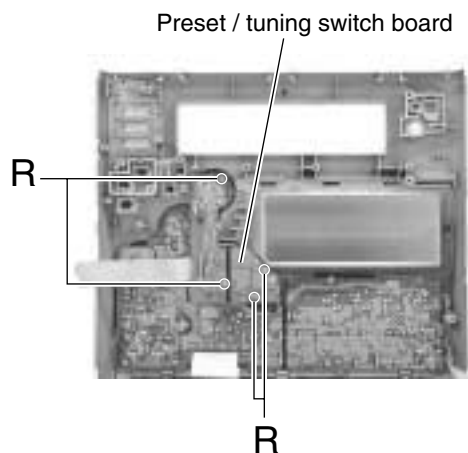

Fig.32
■ Removing the preset / tuning switch board (See Fig.32 and 33)